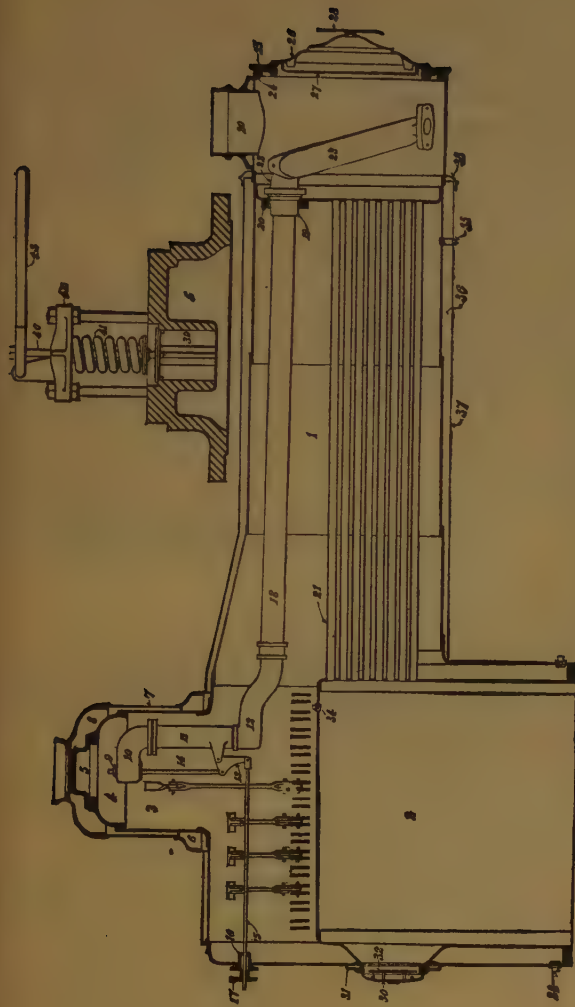

Fig. 5. Lengthwise Section, Locomotive Boiler.
mitted under the grate. The top of the fire-box inner wall is usually flat and is called the crown-sheet; the top of the outer shell or wall over this is sometimes convex and sometimes flat—usually the former. (See figures 5 and 6.)
A. Very often by a "wagon-top," a part above the fire-box in which the outer shell is raised from half a foot to a foot and a half above the barrel proper, the parts of different diameter being connected by a tapering portion. Besides this, the steam-dome is added for the same purpose. (See figure 5.)